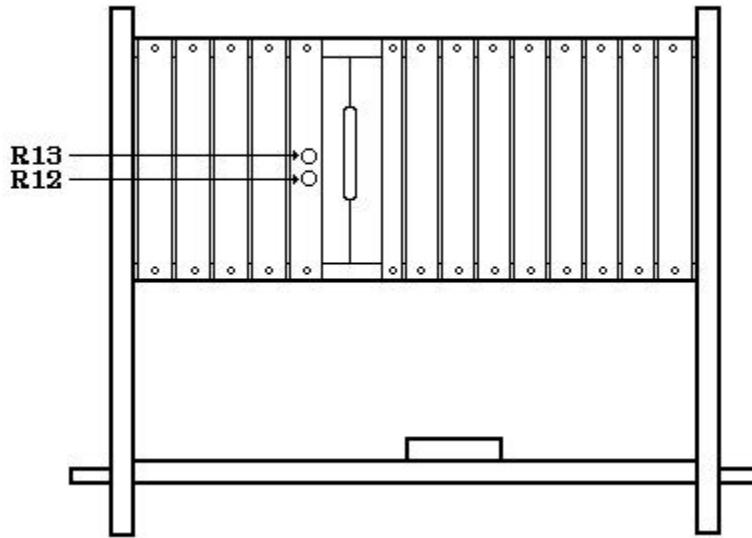

Figure 2. Tracor Models 527A and 527E-top view.
(1) Adjust R12 (fig. 2) (R9 (fig. 3)) until TI indicates +9 (R).
(2) Adjust R13 (fig. 2) (R14 (fig. 3)) until TI indicates +9 (R).